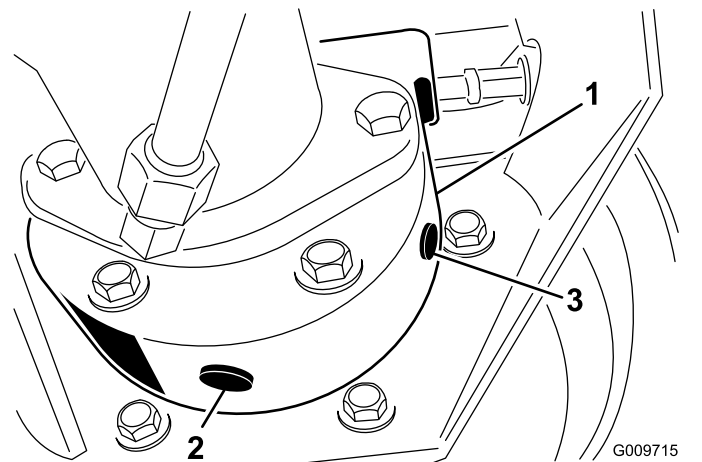

Figure 44
- Place another drain pan under the brake housing on the other side of the wheel (Figure 44).